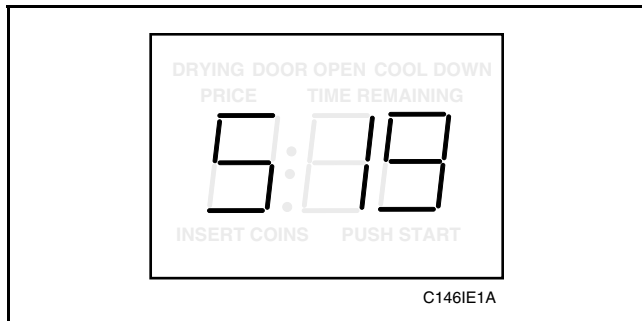

Figure 88
2. While pressing and holding the HIGH TEMP pad with one hand, press the MED TEMP pad with the other hand. Programmable option number 1, (Audio Signal “SIg”), will appear in the VFD, *Figure 88*.